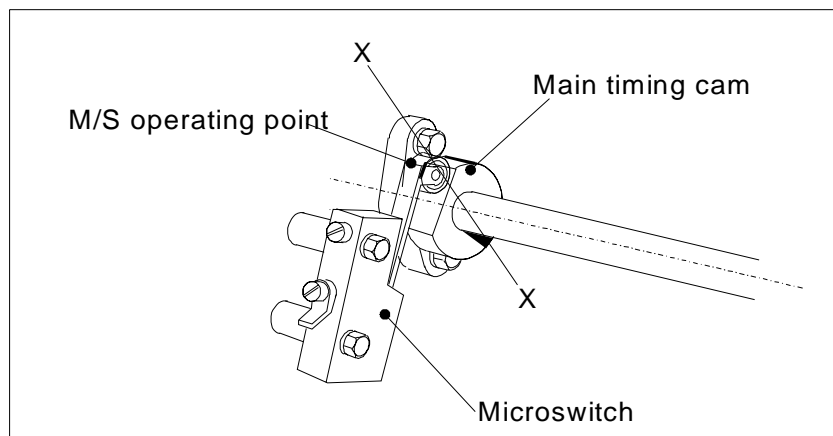

Figure 3.1
The machine will always stop in the 'rest position' having been allowed to complete its cycle. At this point the main timing cam should be in a position similar to that shown in figure 3.1. On some machines, three (3) microswitches may be found on this shaft; the main timing microswitch will be nearest the sidewall of the machine and will be connected to black/white cables.